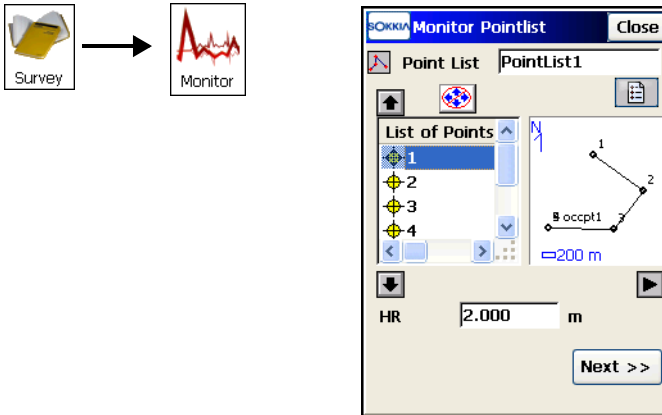

Figure 8-72. Monitor Point List
3. Tap **Survey ▶ Monitor** (Figure 8-72). The *Monitor Pointlist* screen opens to load the desired point list (Figure 8-72).